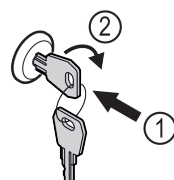

Fig. 188 Example illustration
- Insert key Fig. 188 (1).
- Turn key clockwise by 90° Fig. 188 (2).